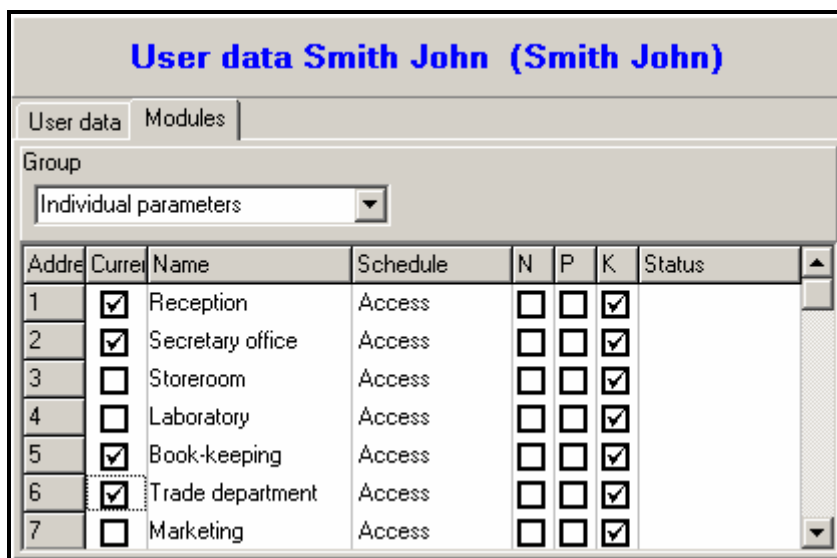

Fig. 25. MODULES tab in the USERS window.
- 14. Click with your mouse on the MODULES tab (see Fig. 25).